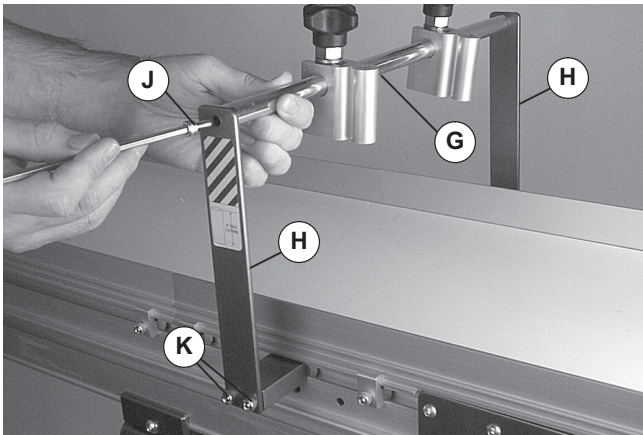

Figure 7
- Loosely attach crossbar & positioner (Figure 7, item G) to support brackets (H) with screws (J).